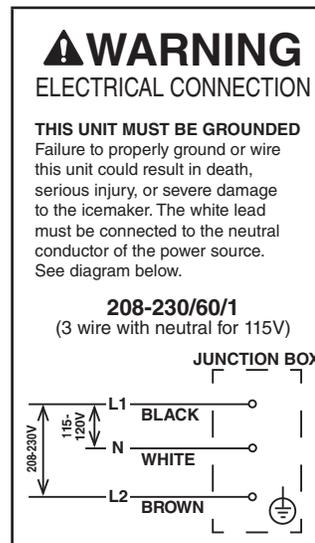

Fig. 9
- Remote condensing unit electrical connection must be made in accordance with the instructions on the "WARNING" tag provided with the pig tail leads in the remote condensing unit's power supply junction box. See Fig. 9.